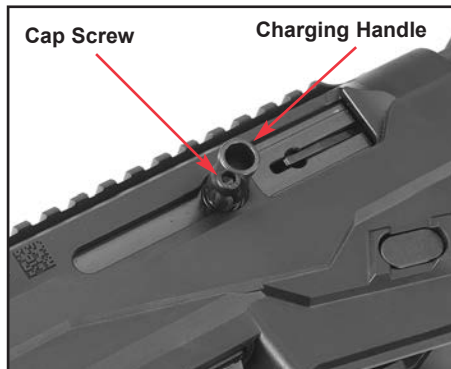

Figure 18.
2. A 5/32" hex wrench must then be used to loosen the cap screw within the charging handle (see Figure 18). Once loosened and removed, the charging handle assembly (comprised of the charging handle and cap screw) can be installed on the opposite side of the rifle.